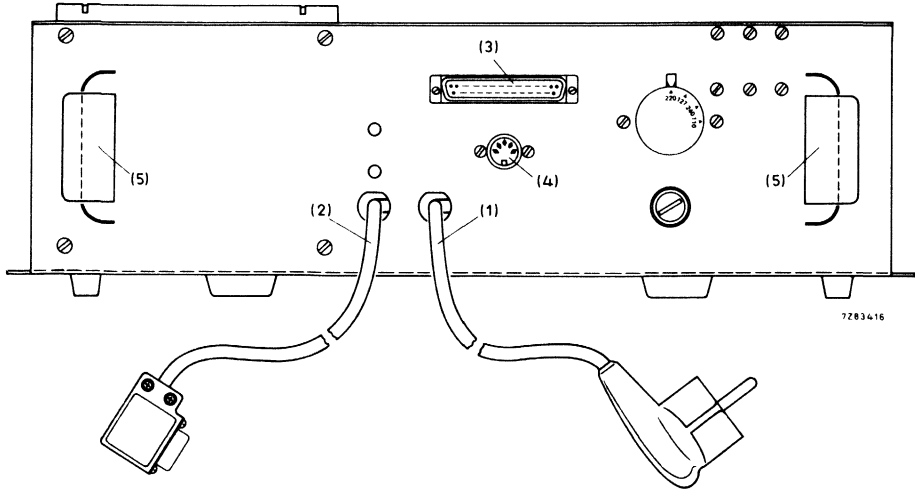

Fig. 4 Rear view.
CONNECTING FACILITIES (see Fig. 4)
The PU20/2 has an input (pin 9 of connector plug (3), Fig. 4) which enables interruption of the data transfer from the PU20/2 to peripheral equipment with RS449/423 or RS232 input specification. When this input goes to the 'OFF' condition (-5 V) the data transfer is stopped. When this input goes to the 'ON' condition (+5 V) or is left floating, the data transfer is started again.